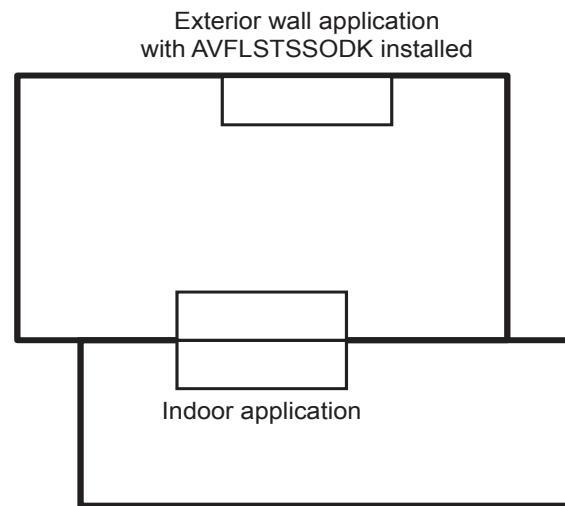
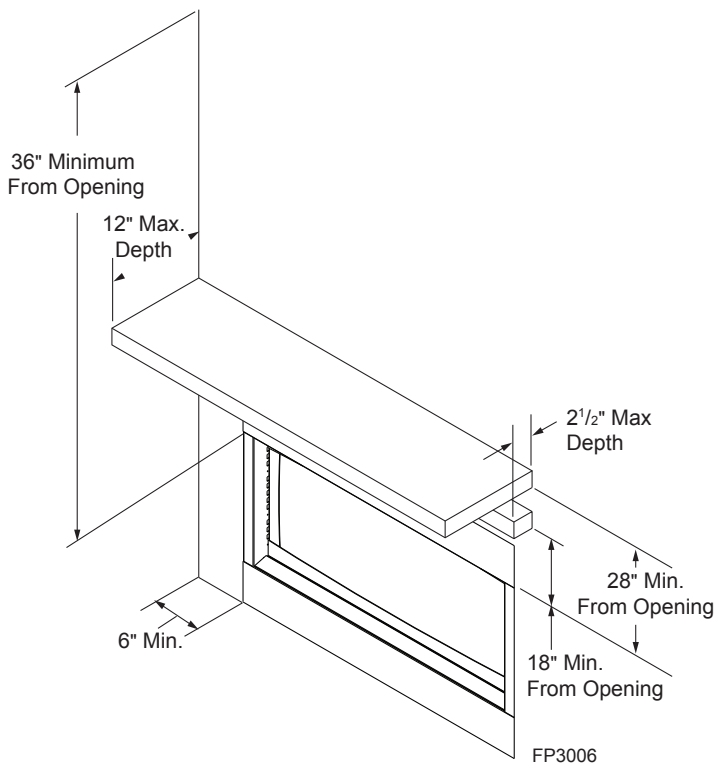

Figure 5. Possible Fireplace Locations
Figure 6. Sidewall and Ceiling Clearances
1. Position fireplace in desired location. Refer to the Fireplace and Framing Dimensions (page 6, Figures 2 and 3,) Fireplace Location (page 8, Figure 5) and Clearances and Height Requirements (page 9, Figures 6 and 7.)
- Minimize modifications to existing construction. Refer to Figure 5 below for location suggestions.
Ensure that minimum clearances shown in Figures 6 and 7 are maintained. Left and right clearances are determined when facing the front of the firebox.
Sidewall Clearances — The clearance from the inside of the appliance to any combustible adjacent wall should not be less than 6". Figure 6
Ceiling Clearance — The ceiling or any other combustible material must be at least 36" from the firebox opening. Figure 6
The dimensions shown in Figures 5 and 6 are minimum clearances to maintain when installing this heater. Left and right clearances are determined when facing the front of the heater.
Mantel clearances — Must meet the clearance requirements detailed in Figures 6 and 7.